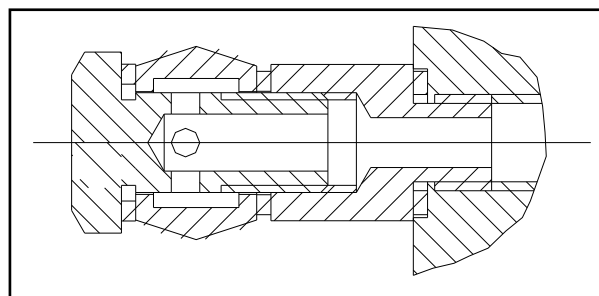

Fig. 34
- ◆ Connect the hydraulic unit to the circuit crossing with a flexible pipe. (Fig. 34)